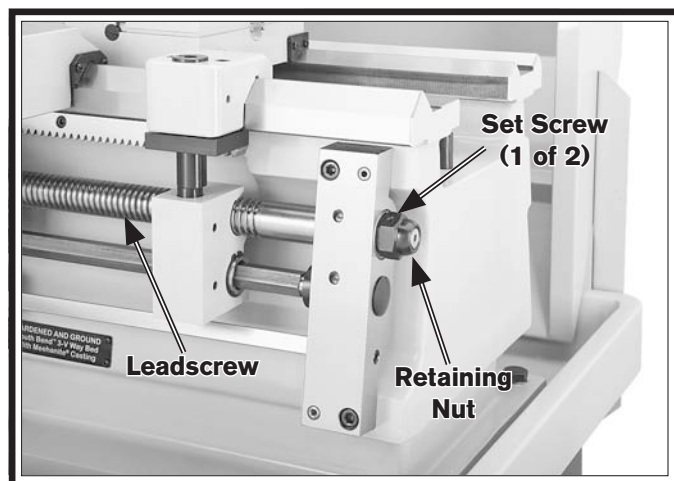

Figure 116. Leadscrew end play adjustment.
2. Loosen both retaining nut set screws (see **Figure 116**).